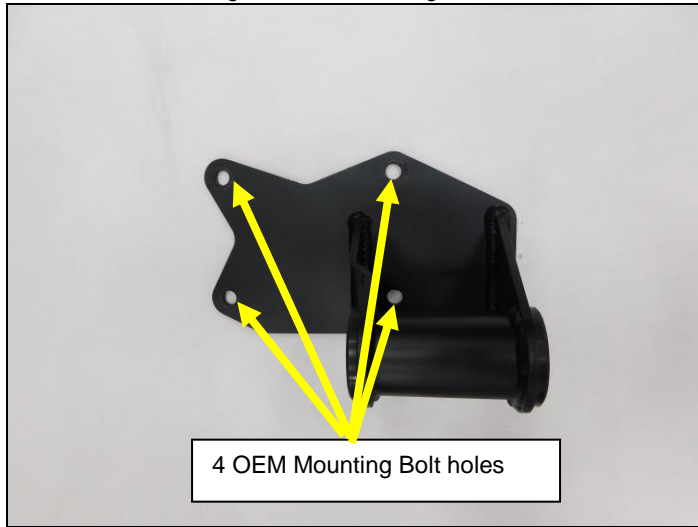

Figure 3
- With the engine out of the vehicle, install the driver's side (Left) engine mount to the engine block using (x4) M10 x 25MM flange bolts provided. Install the mount with the polyurethane mount toward the front of the engine using the OEM engine mount locations on the engine block. **NOTE:** Always use at least (x4) mounting bolts (**Figures 3 & 4**).